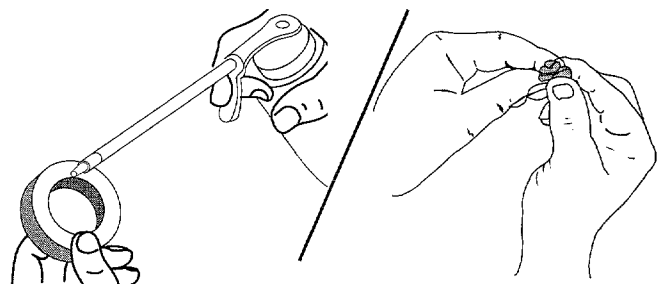

Figure 16
6. Apply enough clean SAE 30 oil to lightly coat the filter. See Figure 16.
7. Squeeze the filter to spread and remove excess oil. See Figure 16.